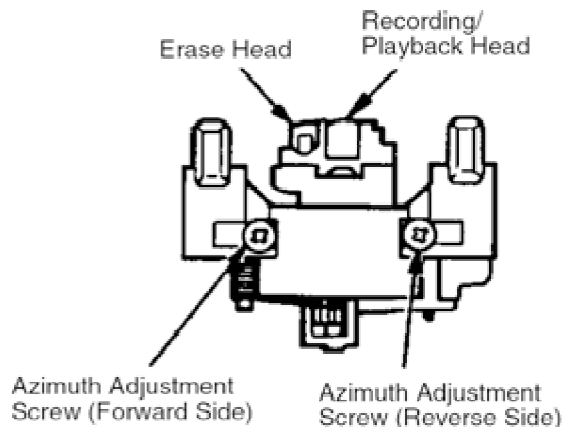

Fig. 11
2. Playback the azimuth adjustment portion (8kHz, -20dB) of the test tape (QZZCFM). Adjust the azimuth adjusting screw so that the output from Lch and Rch are set to maximum. (Cf. Fig. 11)